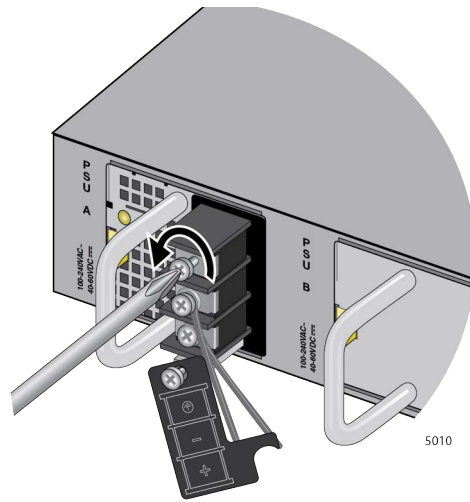

Figure 103. Loosening the Screw for the Positive (+)
5. Loosen the top screw for the positive (+) with a Phillips-head screwdriver. Refer to Figure 103.